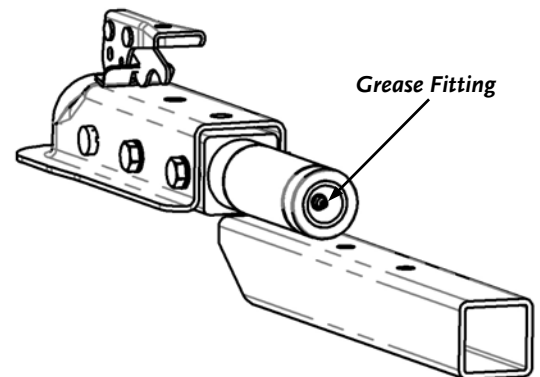

Figure 28
2. Apply enough quality general-purpose lithium grease with a hand-pumped grease gun to the Tow Hitch Swivel Zerk Fitting, so a small amount of Grease comes out of the Swivel Fitting (**Figure 28**)